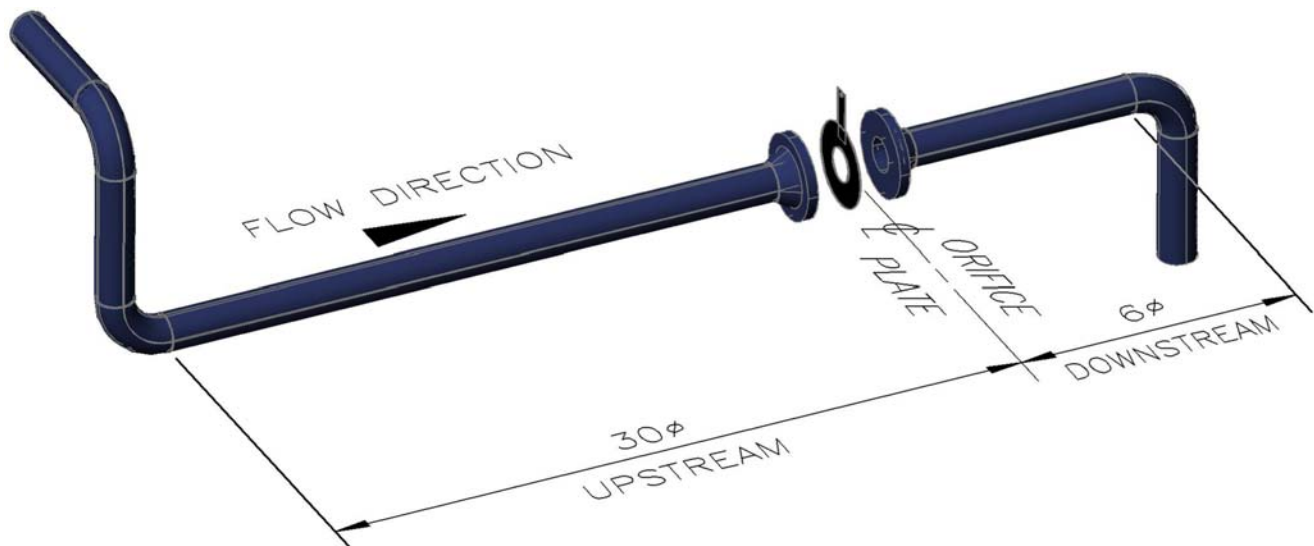

FIGURE 12.13 Meter run pipe lengths.
To receive the most accurate reading possible, turbulence within the pipe must be kept to a minimum. Flow turbulence is created by obstructions in the configuration from items such as fittings and valves. A smooth, consistent flow is created by providing a sufficient amount of straight pipe before and after the orifice flanges. Therefore the length of the run of pipe before, or *upstream*, of the orifice plate and the length of the section of pipe after, or *downstream*, of the plate is precisely calculated. These upstream and downstream measurements are established by using precise lengths of pipe which are based on the diameter of the pipe being used. Additional fitting and valve installations will affect how these lengths are calculated. For example, a different Beta ( $\beta$ ) Ratio, ranging from 0.30 to 0.75 (30%–75%), can be used or a multiplane pipe configuration before the orifice plate may be required. As a general rule-of-thumb, 30 pipe diameters upstream and six (6) pipe diameters downstream will provide adequate lengths of pipe to create smooth flow in the meter run. A graphical representation of the values used to calculate these lengths is shown in Figure 12.13.
To use the values shown in Figure 12.13, simply multiply the upstream and downstream diameters times the nominal pipe size. The following is an example to calculate the upstream and downstream pipe lengths for a meter run installed in a 6" pipe configuration.